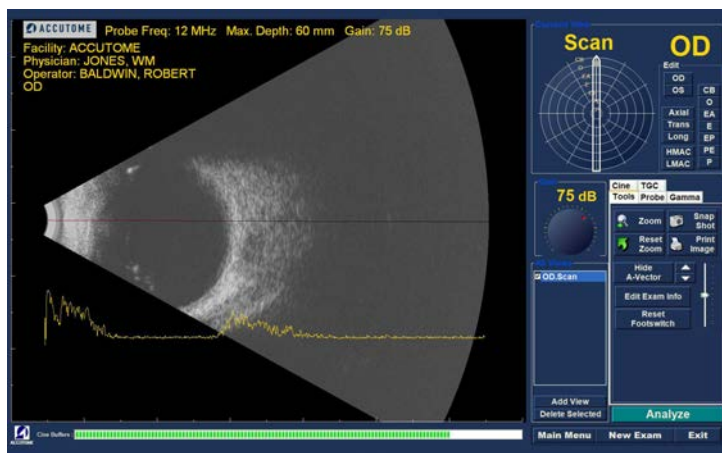

Figure 5.32 - A-Vector Displayed
- The A-Vector will be displayed under the live image as shown in Figure 5.32 below. To close the A-Vector select "Hide A-Vector".